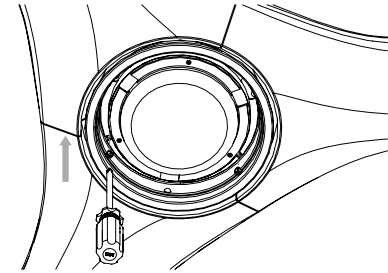

FIGURE 19
1. Carefully tuck the wire connections inside the junction box. Secure the wall control with the two wall control mounting screws provided (Fig. 19).
1. Securely attach the LED wires to the wires coming from the motor. Connect the white wire connector from the luminaire module to the white wire of the fan. Follow the same procedure with the black wire connectors. (Fig. 19).